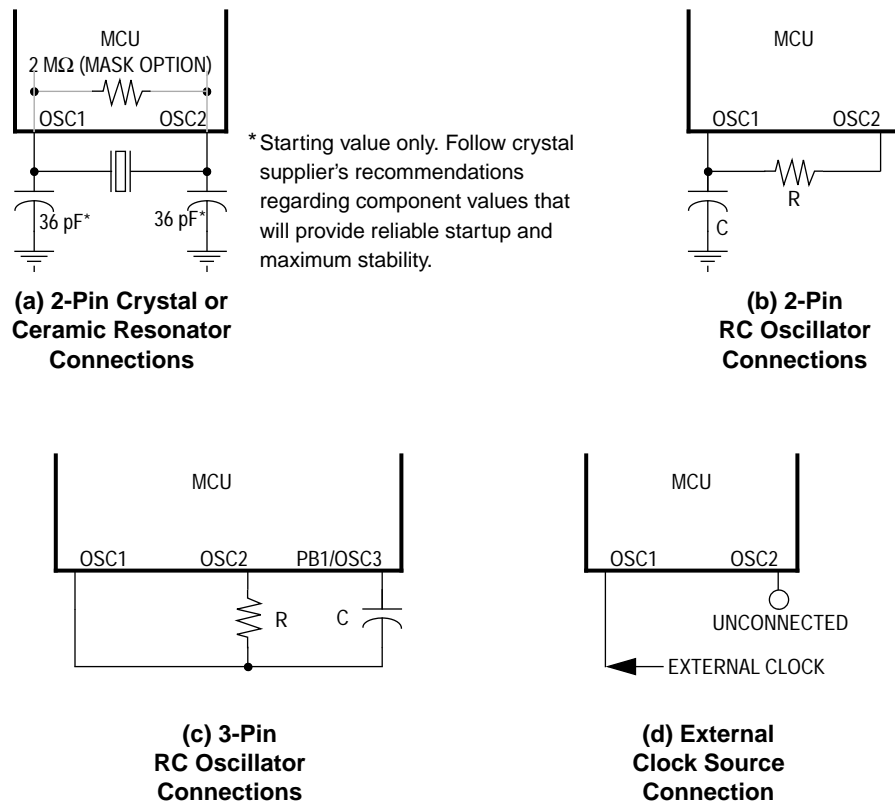

Figure 1-3. Oscillator Connections
1. A crystal, as shown in Figure 1-3\(a\)
2. A ceramic resonator, as shown in Figure 1-3\(a\)
3. An external resistor and capacitor using two pins, as shown in Figure 1-3\(b\)
4. An external resistor and capacitor using three pins, as shown in Figure 1-3\(c\)
5. An external clock signal, as shown in Figure 1-3\(d\)
The circuit in **Figure 1-3(a)** shows a typical 2-pin oscillator circuit for an AT-cut, parallel resonant crystal. The crystal manufacturer's recommendations should be followed, since the crystal parameters determine the external component values required to provide maximum stability and reliable startup. The load capacitance values used in the oscillator circuit design should include all stray capacitances. The crystal and components should be mounted as close as possible to the pins for startup stabilization and to minimize output distortion. An internal startup resistor of approximately 2 MΩ is provided between OSC1 and OSC2 when the crystal/ceramic resonator oscillator option is used.
In cost-sensitive applications, a ceramic resonator can be used instead of the crystal. The circuit in **Figure 1-3(a)** is for a ceramic resonator also. The resonator manufacturer's recommendations should be followed, since the resonator parameters determine the external component values required for maximum stability and reliable starting. The load capacitance values used in the oscillator circuit design should include all stray capacitances. The ceramic resonator and components should be mounted as close as possible to the pins for startup stabilization and to minimize output distortion. An internal startup resistor of approximately 2 M Ω is provided between OSC1 and OSC2 for the crystal/ceramic resonator oscillator mask option register bit.
The 2-pin RC oscillator configuration can be used for very low-cost applications. With this option, a resistor must be connected between the two oscillator pins and a capacitor must be connected from the OSC1 pin to V_{SS} , as shown in **Figure 1-3(b)**. The signal on the OSC2 pin is a square wave and the signal on the OSC1 pin approximates a triangular wave.
Another low cost, but more accurate, type of RC oscillator is the 3-pin configuration utilizing the PB1/OSC3 pin. With this option, a resistor must be connected between the OSC1 and OSC2 pins and a capacitor must be connected between the OSC1 and PB1/OSC3 pins, as shown in **Figure 1-3(c)**. This 3-pin RC oscillator is more accurate than the 2-pin RC oscillator with respect to temperature, supply voltage, and/or device processing variations. The signal on the OSC2 and PB1/OSC3 pins is a square wave and the signal on the OSC1 pin approximates a triangular wave.
An external clock from another CMOS-compatible device can be connected to the OSC1 input, with the OSC2 input not connected, as shown in **Figure 1-3(d)**. This configuration is possible regardless of whether the oscillator is set up for crystal/ceramic resonator, 2-pin RC, or 3-pin RC operation. However, if the 3-pin RC oscillator is selected, the PB1/OSC3 pin also must be left unconnected.